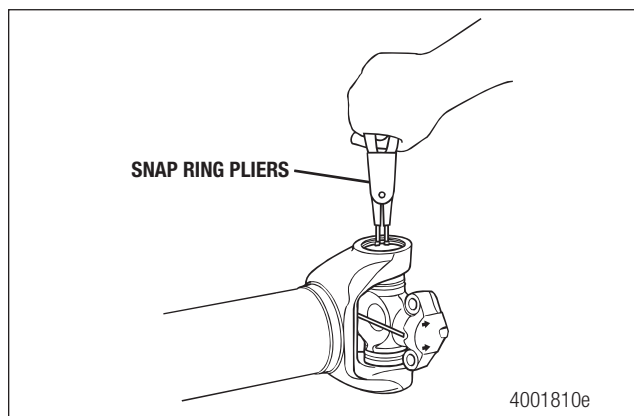

Figure 5.28
1. Use snap ring pliers to remove the snap rings. Figure 5.28.